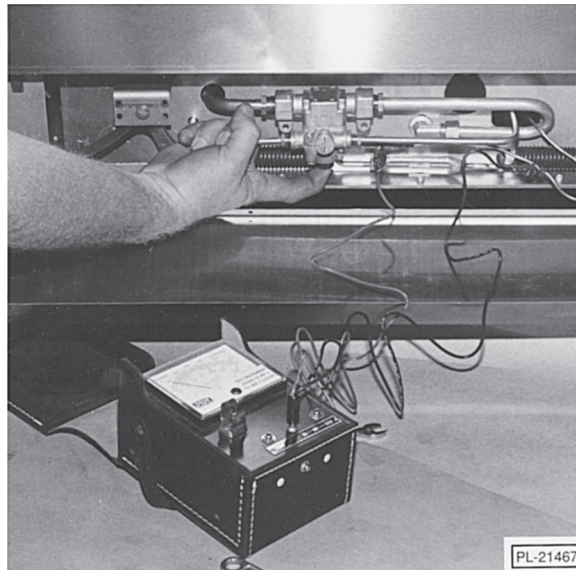

Fig. 37
4. If the unit still will not stay lit, using a volt meter, check the millivolt reading from the valve thermocouple connection while holding the pilot button in the “ON” position (Fig. 37).
3. If unit will not stay lit, using a volt meter, check the millivolt reading from the valve thermocouple connection while holding pilot button in the "ON" position (see Fig. 37).